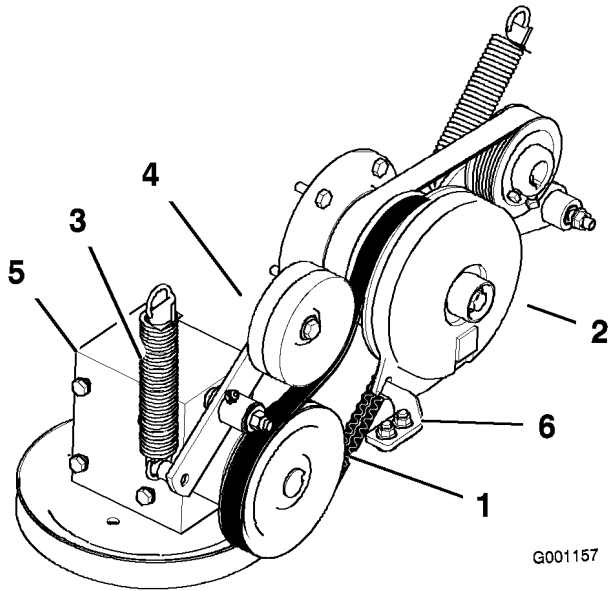

Figure 58
4. Remove the spring from the idler arm (Figure 58).
7. Install the PTO drive belt around the clutch pulley and the gearbox pulley (Figure 58).
9. Install the spring to the idler arm (Figure 58).